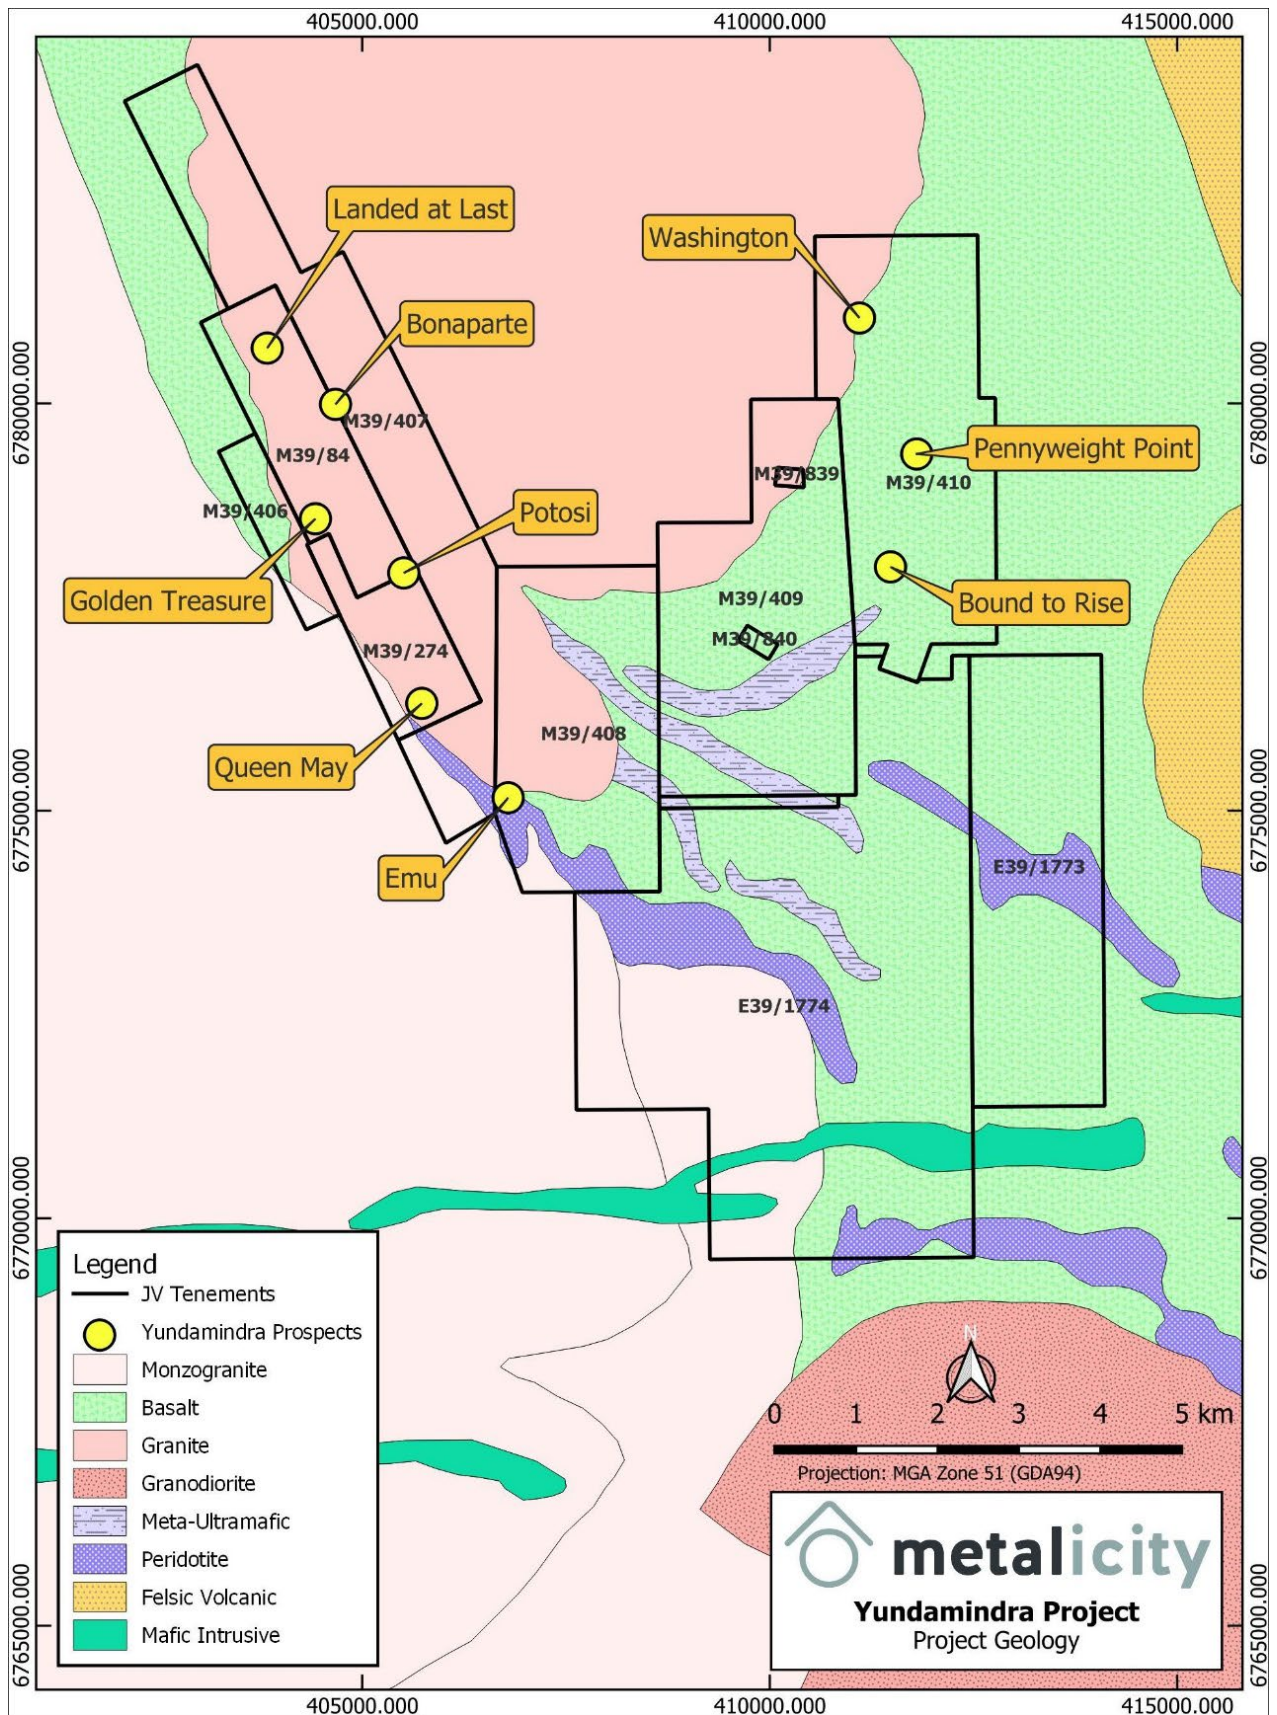

Figure 4 – Yundamindra Gold Project – Priority Prospects.
The Yundamindra Gold Project is located 65 kms southeast of Leonora and 65 kms east of the Joint Venture's (JV) Kookynie Project and is situated in close proximity to a number of mills easily accessible by road. The Yundamindra Project currently consists of nine historical highly prospective prospects (Figure 4), which had high grade historical production prior to 1970 of 74kt @ 19.3g/t Au for 45,000 ounces.